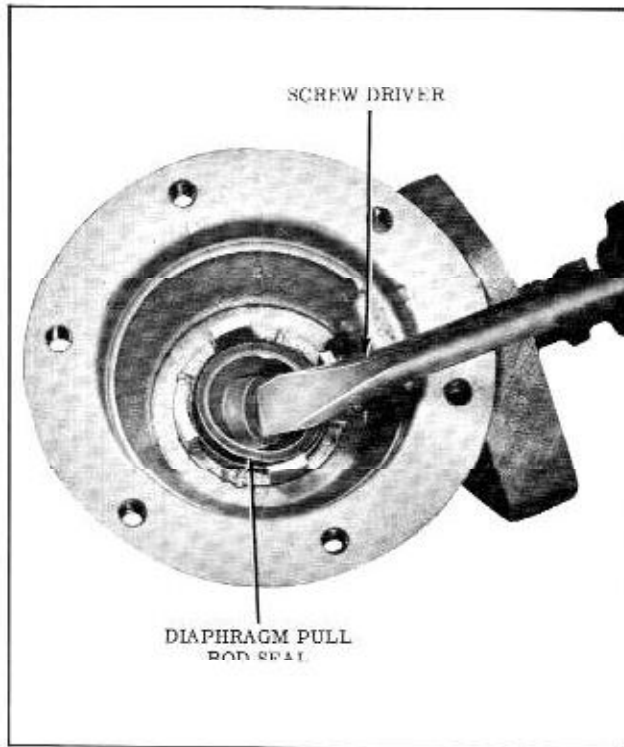

Fig. 8-58 Removing Seal
10. Remove staking burrs from diaphragm pull rod seal and remove seal by prying out with screw driver. (Fig. 8-58)